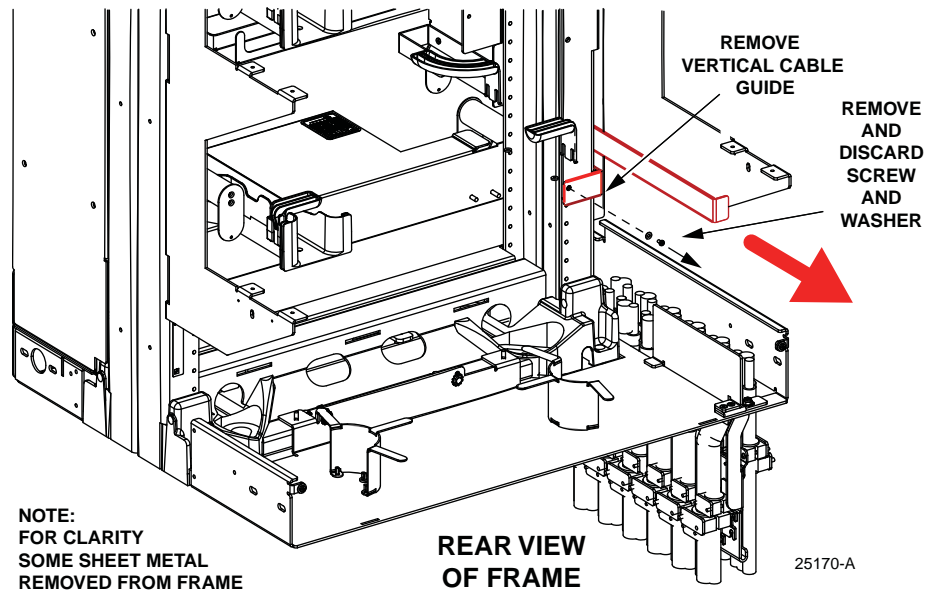

Figure 47. Removing Vertical Cable Guide
- Remove and discard #12 washer and screw securing vertical cable guide next to the bottom chassis, as shown in Figure 47. Discard screw, washer, and cable guide.